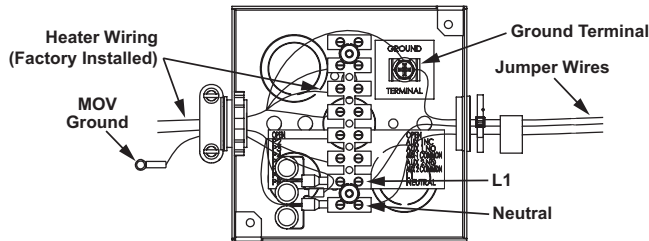

Figure 53
3. Connect the 120VAC hot wire from the power supply to the black jumper wire or the terminal block location marked "L1" inside of the junction box located on top of the water heater. If the black jumper wire is used, make the connection inside of the junction box with a properly sized wire nut and wrap electrical tape around the wire nut and wire end. See junction box Figure 53 and wiring diagram Figure 62 on page 66.
4. Connect the 120VAC neutral wire from the power supply to the white jumper wire or the terminal block location marked "Neutral" inside of the junction box located on top of the water heater. If the white jumper wire is used, make the connection inside of the junction box with a properly sized wire nut and wrap electrical tape around the wire nut and wire end. See junction box Figure 53 on page 41 and wiring diagram Figure 62 on page 66.
5. Connect the ground wire from the power supply to the green jumper wire or the ground terminal location inside of the junction box located on top of the water heater. If the green jumper wire is used, make the connection inside of the junction box with a properly sized wire nut and wrap electrical tape around the wire nut and wire end. See junction box Figure 53 and wiring diagram Figure 62 on page 66.